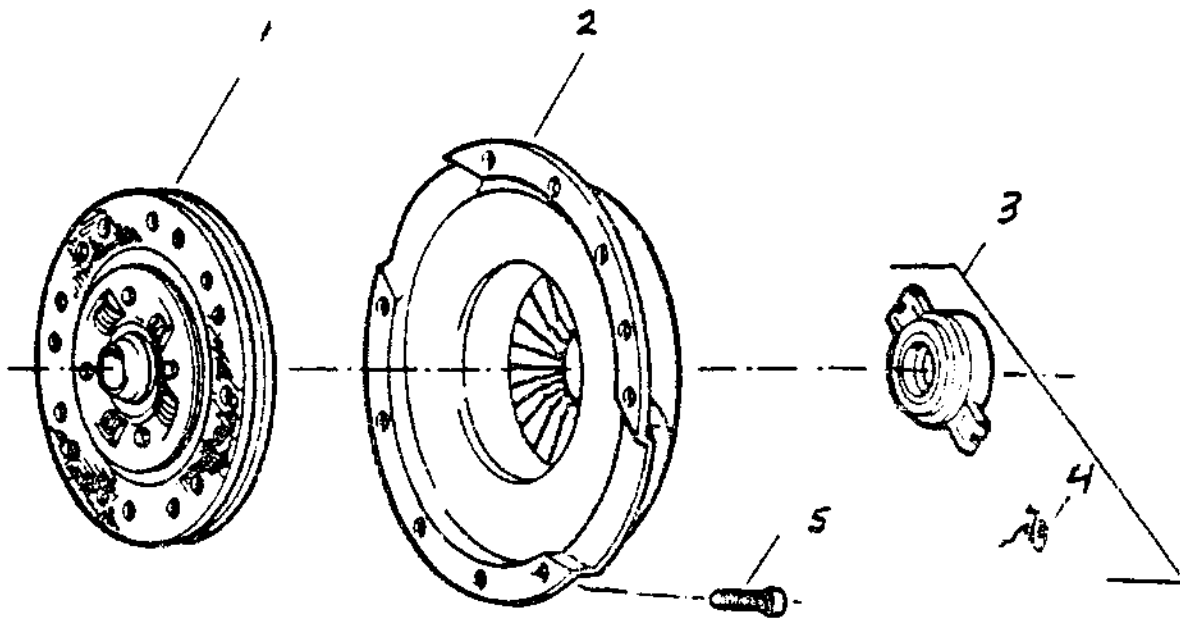

Figure 1 Clutch Assembly
10.3.1.6 Upon completion of rebuild, the clutch assembly shall consist of all the components listed in Table I. Figure 1 provides component identification.
10.3.2 Clutch assembly components.- Table I lists the components of the Iltis clutch assembly; refer to Figure 1 for component identification.